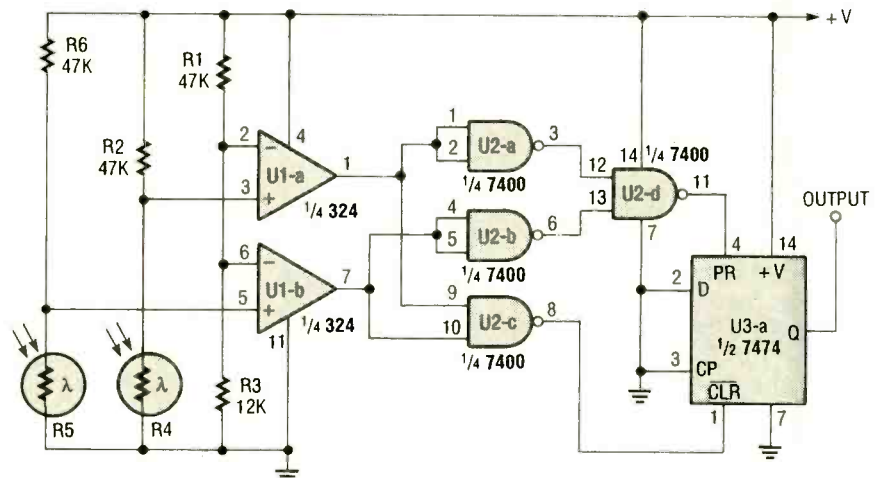
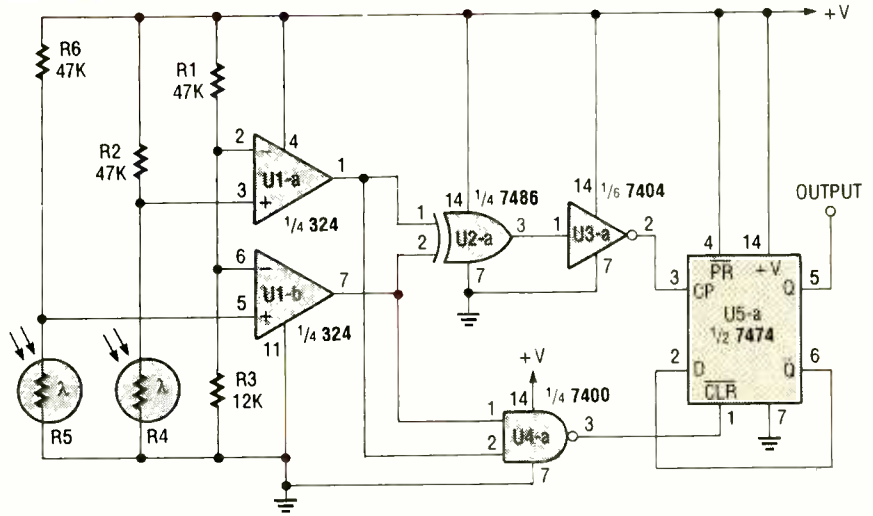

Fig. 1. This D flip-flop based circuit can be used to monitor the amount of material in a supply tube or other container.
Fig. 2. The NAND-gates in Fig. 1 are replaced here with a 7486 exclusive OR gate and a 7404 inverter.
Such a circuit (minus the relay and solenoid) is shown in Fig. 1. In that circuit,
**PARTS LIST FOR THE FIG. 1 EXERCISE**
Figure 2 shows the same operation implemented using a 7486 exclusive OR (XOR) gate and a 7404 inverter, which together form a XNOR gate, instead of the 7400 NAND gate shown in Fig. 1.
**D Flip-Flop Exercise.** Breadboard the circuit shown in Fig. 1, and connect a logic probe to the Q output of the flip-flop. Apply power to the circuit, and leave both sensors uncovered to simulate an empty tube. Under that condition, the following should occur:
- The preset (PR) input terminal should be low. Is it?
If the output your circuit does not follow the above sequence of events, check the wiring to the circuit and repeat the experiment. If it does perform as described, power down the circuit, and breadboard the circuit shown in Fig. 2.
**PARTS LIST FOR THE FIG. 2 EXERCISE**